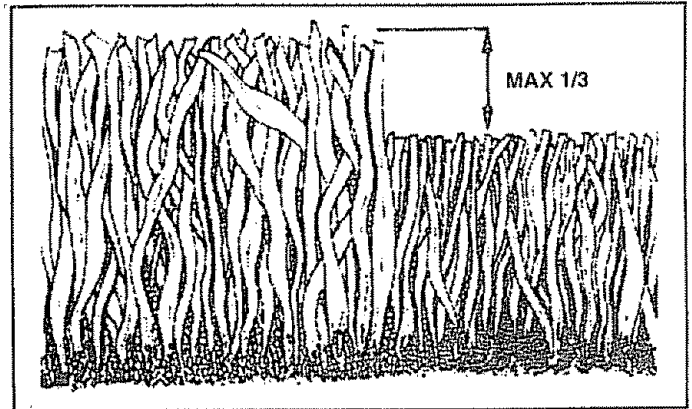

FIG. 7
- For best results, adjust the lawn mower cutting height so that the lawn mower cuts off only the top one-third of the grass blades (See Fig. 7). If the lawn is overgrown it will be necessary to raise the height of cut to reduce pushing effort and to keep from overloading the engine and leaving clumps of mulched grass. For extremely heavy mulching, reduce your width of cut, mow slowly and raise the rear of the lawn mower one wheel adjuster setting higher than the front.